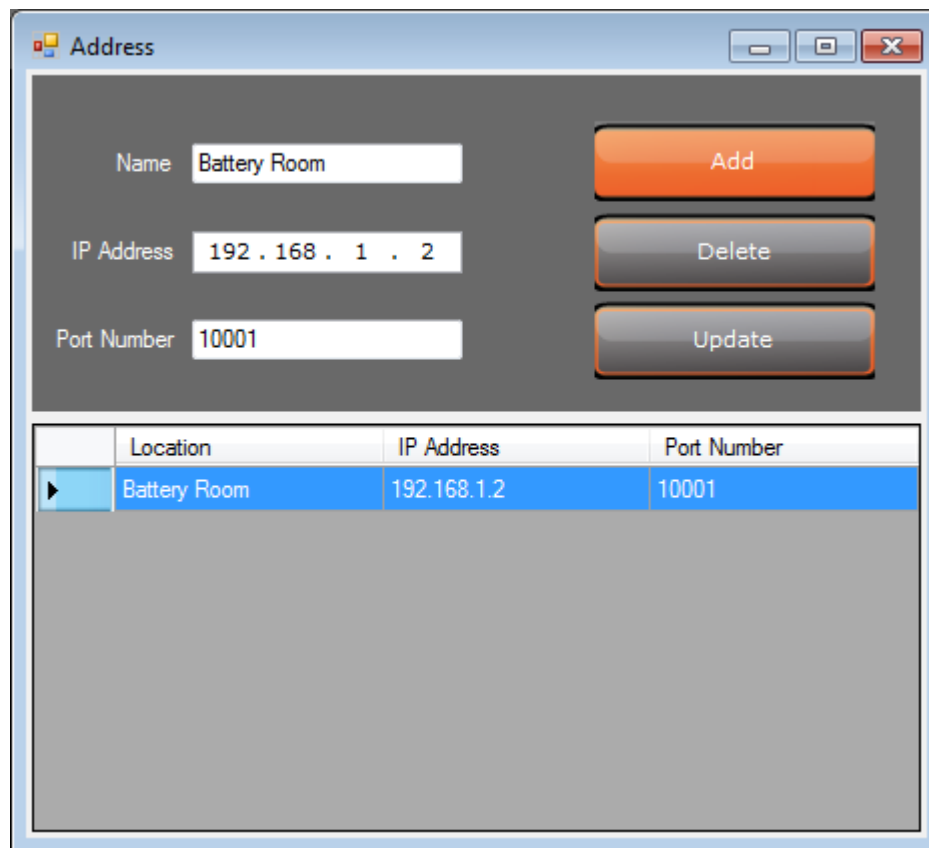

Figure 5 – Monitor Address Book Edit Window
1. From the File menu select **Monitor Address Book**. The Address Book Edit Window appears (See figure 5).